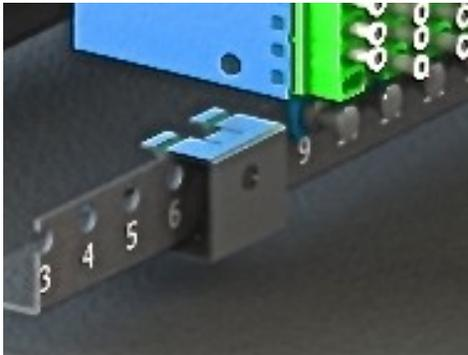

Fig. 1
1. Insert 2 LGX adapter clips onto the top bulkhead panel rail and 2 onto bottom bulkhead panel rail (Fig. 1)
1. Insert LGX adapter clips onto the top bulkhead panel rail and onto the bottom bulkhead panel rail (Fig. 1)